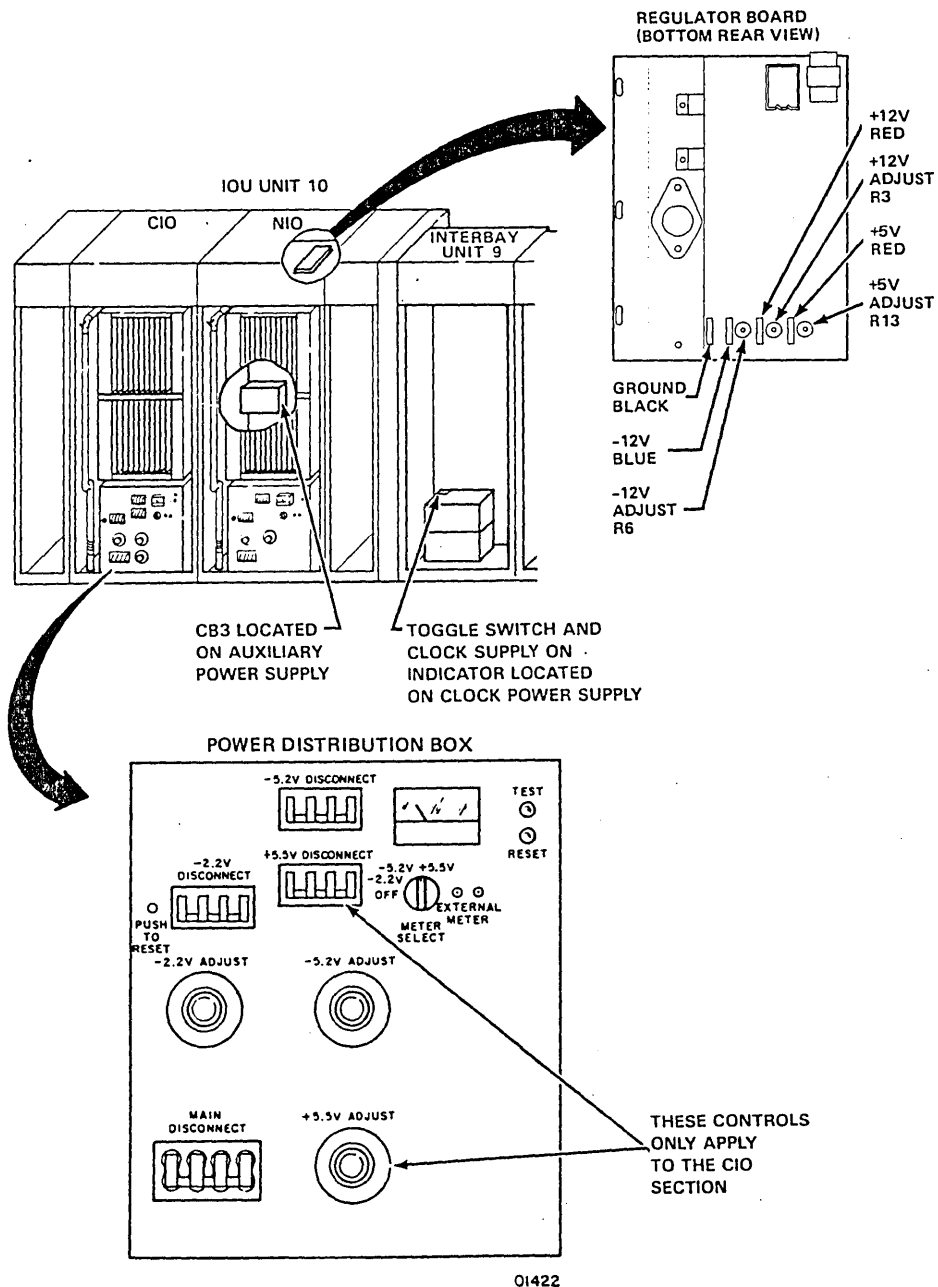

Figure 4-22. IOU Power Controls and Adjustments
- ___ 7. Apply NIO cabinet power by sequentially setting section circuit breakers (figure 4-22) as follows: